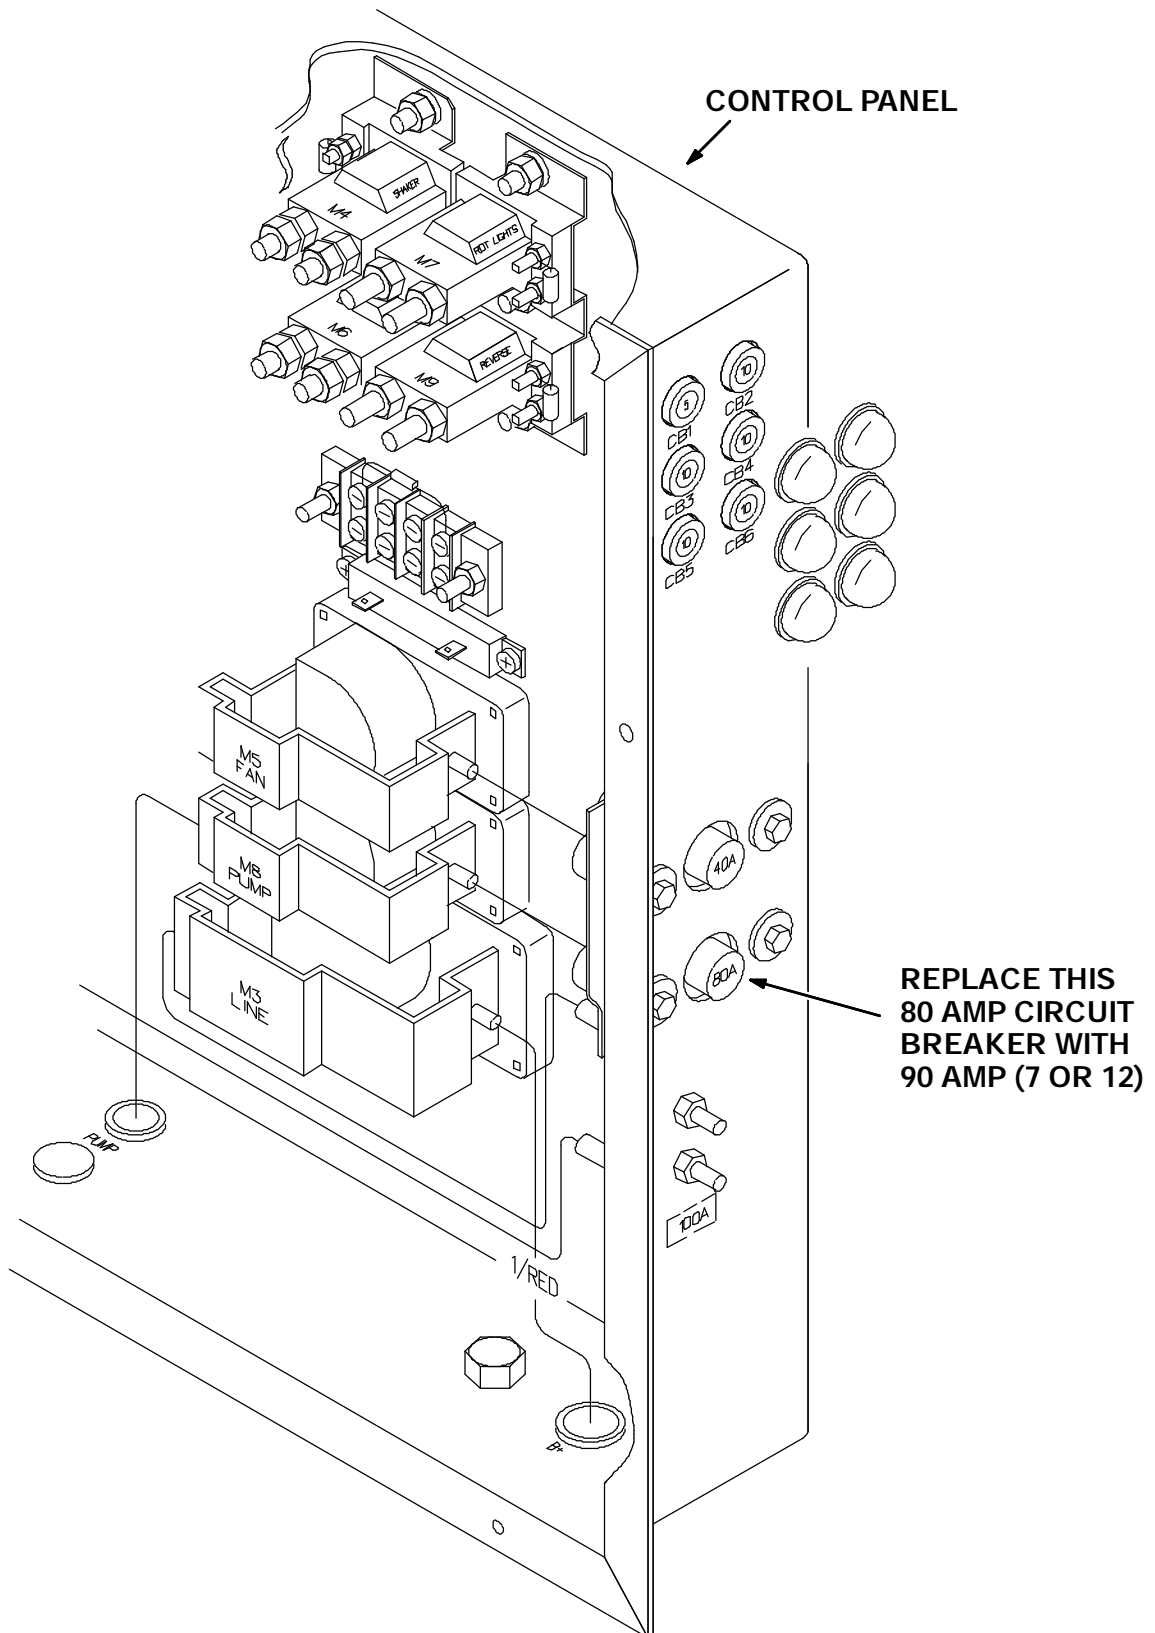

FIG. 3 - CONTROL PANEL AND CIRCUIT BREAKER
(Refer to FIG. 3)
2. Remove the hardware holding the cover plate to the electrical control box. Remove the cover plate. (Refer to FIG. 3)
3. Locate the existing 80 amp circuit breaker in the control box. Mark and disconnect the wires leading to the back of the breaker. (Refer to FIG. 3)
4. Remove the two screws holding the circuit breaker in the box. Remove and discard the circuit breaker. (Refer to FIG. 3)
5. Position the new 90 amp (7 or 12) in the control panel. Reinstall the two screws and hand tighten. (Refer to FIG. 3)
6. Reconnect the wires to the back of the new circuit breaker (7 or 12). (Refer to FIG. 3)
7. Reinstall the cover plate on the control panel. Firmly tighten the screws. (Refer to FIG. 3)